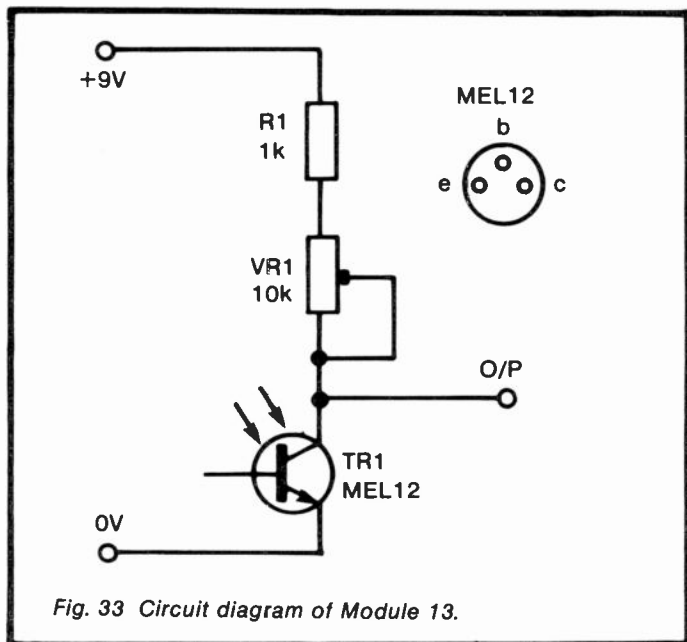

Fig. 33 Circuit diagram of Module 13.
*Circuit diagram:* see Figure 33.